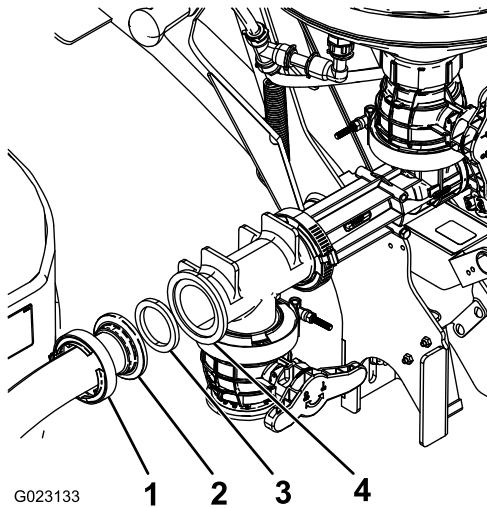

Figure 20
5. Attach the other end of the hose to the forward-facing opening of the eductor using a gasket and worm-screw clamp (Figure 20).